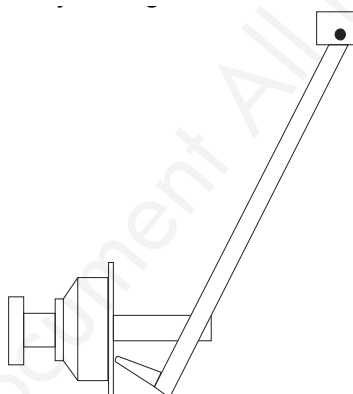

Fig. 8-8
3. Swing width scale, put scale head on the flange plane of principal axis ect figure 8-8, press ALU key ect figure 8-3, calibration end, put back width scale.